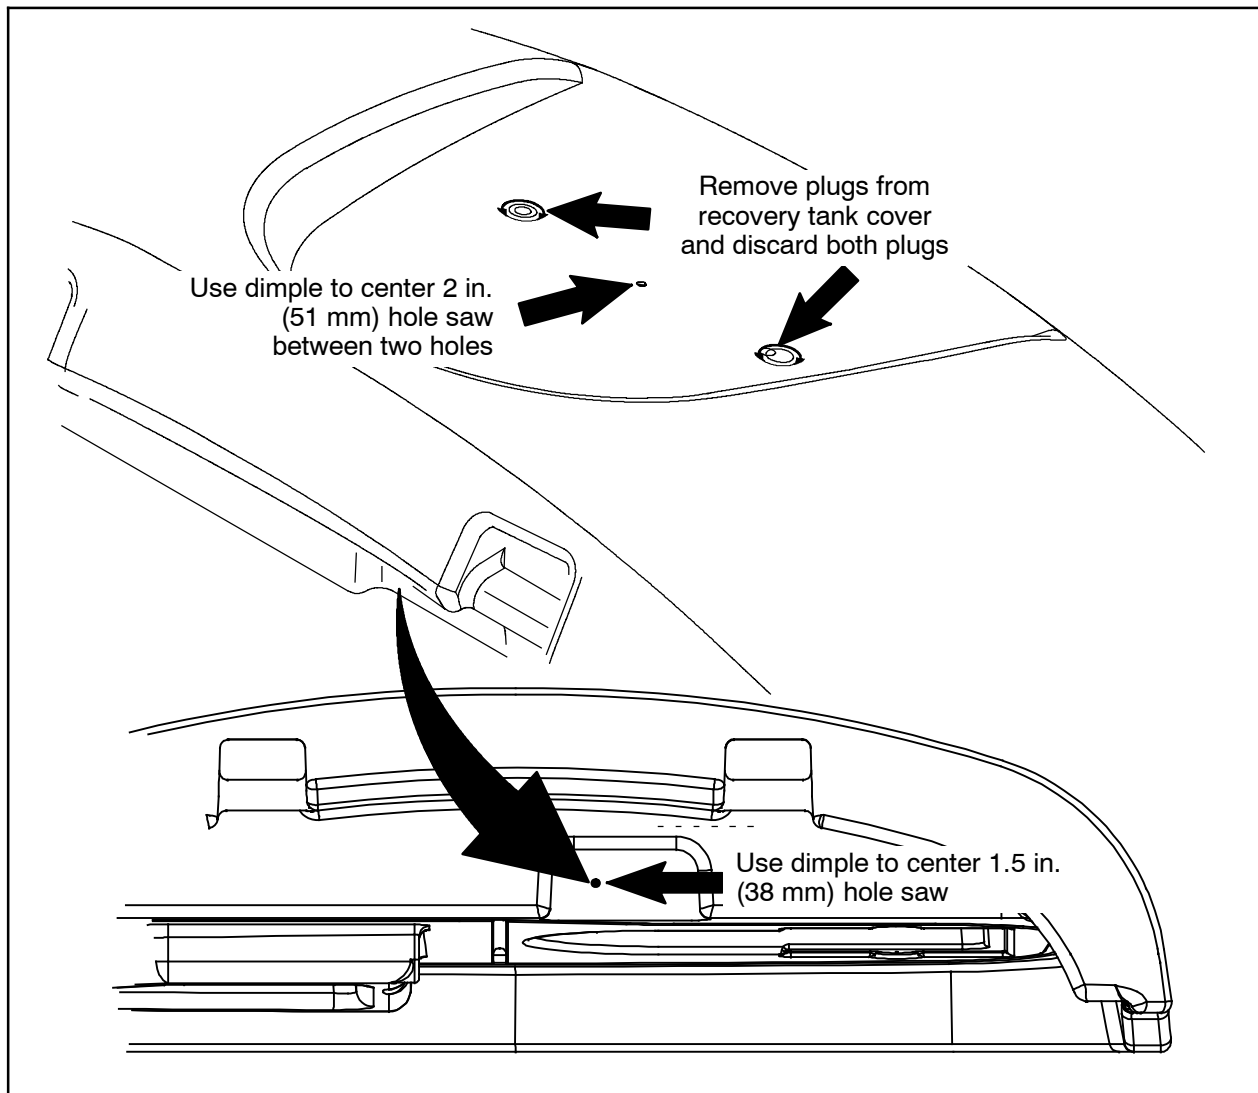

FIG. 35
21. Remove the plugs from the recovery tank cover and discard both plugs. (Fig. 35)
26. Use a 2 in. (51 mm) hole saw to cut a hole through the top of the recovery tank cover. **Do Not** cut into/through the bottom of the recovery tank cover. (Fig. 35)
27. Use a 1.5 in. (38 mm) hole saw to cut a hole through the front of the recovery tank cover. (Fig. 35)